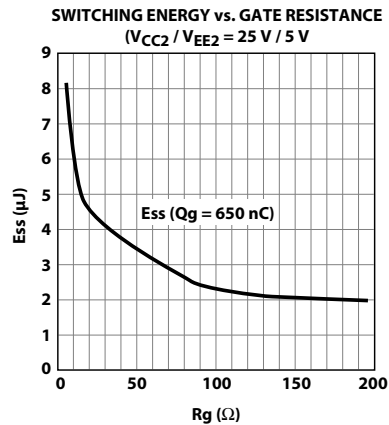

Figure 77. Switching energy plot for calculating average  $P_{switch}$  (for HCPL-316J output driving an IGBT rated at 600 V/100 A).
2. Calculate total power dissipation in the part referring to Figure 77. (Average switching energy supplied to HCPL-316J per cycle vs. RG plot);
For  $R_G = 10.5$ , the value read from Figure 77 is  $E_{SWITCH} = 6.05 \mu J$ . Assume a worst-case average  $I_{CC1} = 16.5 mA$  (which is given by the average of  $I_{CC1H}$  and  $I_{CC1L}$ ). Similarly the average  $I_{CC2} = 5.5 mA$ .
$P_i = 90.8 \text{ mW}$ ,  $P_o = 217.3 \text{ mW}$ ,  $T_A = 100^\circ\text{C}$ , and assuming the thermal model shown in Figure 77 below.